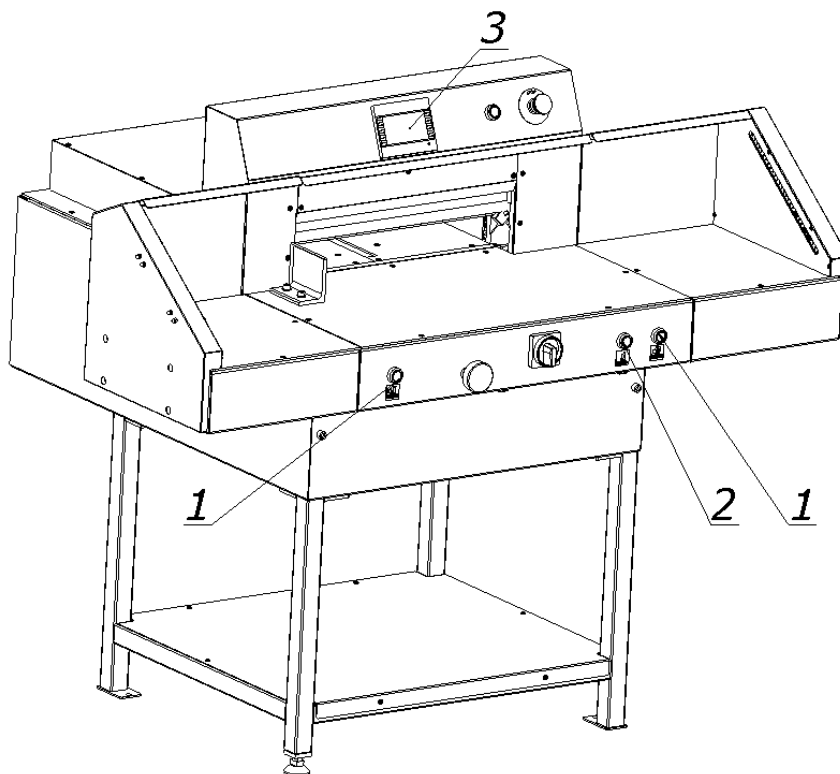

Figure 18. Operating elements during use during pressing.
Press the left cutting button 1  and the pressure button 2  simultaneously (Fig.18)
1. Press simultaneously the left cutting button 1  and the pressure button 2  (fig.18)
Changes of the clamping force are made on the screen of the programmer 3 (Fig.18)